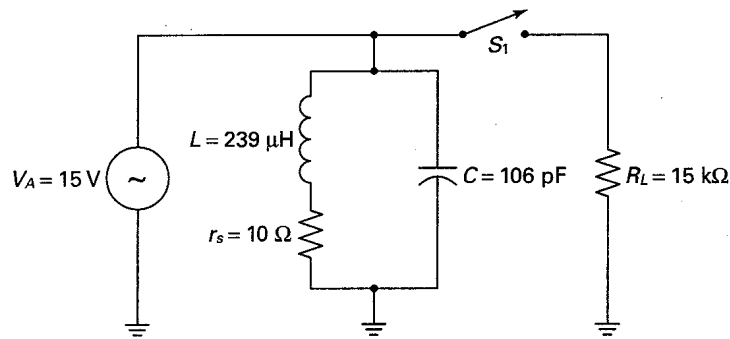

Fig. 1-27
- 1.47** Refer to Fig. 1-27. Calculate the following ( $S_1$  is open): (a)  $f_0$ , (b)  $X_L$  and  $X_C$  at  $f_0$ , (c)  $I_L$  and  $I_C$  at  $f_0$ , (d)  $Q$ , (e)  $Z_{\text{tank}}$  at  $f_0$ , (f)  $I_T$  at  $f_0$ .
- 1.48** In Fig. 1-27, calculate the following: (a) BW with  $S_1$  open, (b) BW with  $S_1$  closed.
- 1.49** Refer to Fig. 1-27. Determine whether the tank appears inductive, capacitive or resistive at each of the following frequencies: (a)  $f_1$ , (b)  $f_2$ , (c)  $f_0$ .
- 1.50** Refer to Fig. 1-27. Determine the phase relationship between  $I_L$  and  $I_C$  at each of the following frequencies (ignore  $r_s$ ): (a)  $f_0$ , (b)  $f_1$ , (c)  $f_2$ .